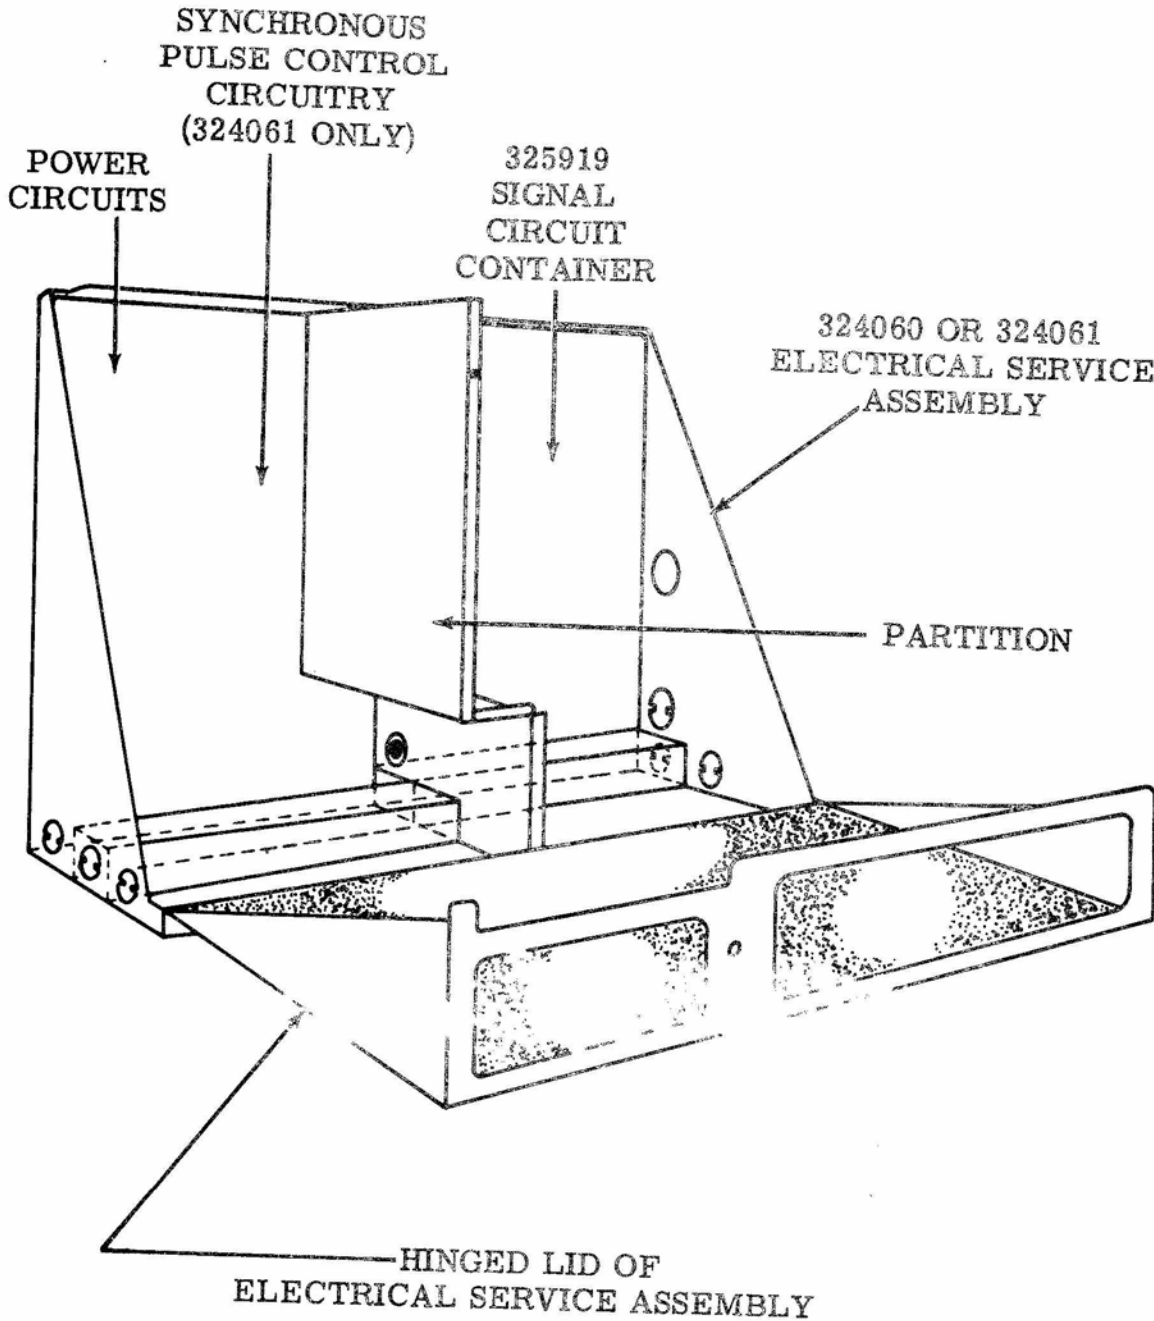

Figure 4 - Inputs for Receive-Only or Send-Receive Sets
- (a) With the cover base plate, mounting plate, and electrical service assembly all fastened together, set the mounting plate on its rear edge and support it in this position. Remove the two screws, lockwashers, and flat washers that fasten the hinged lid of the electrical service assembly, and open the lid so that the components within the assembly are accessible as indicated in Figure 4. Loosen the quarter-turn fastener on the outer cover of the 325919 container assembly and remove the outer cover. Loosen the two quarter-turn fasteners on the inner cover of the 325919 container assembly, and remove the inner cover.
- (a) With the electrical service assembly in the position indicated by Figure 4, refer to 8328WD, sheet 4, and insert the 325915 cable assembly through the right 326731 bushing into the electrical service assembly. Remove and discard the screw, lockwasher, and nut fastened in the right keyhole slot in the outer frame of the 325919 container assembly. Remove the nut and lockwasher from the mounting bushing on the 325915 cable assembly, but retain them on the cable. Insert the nut and lockwasher while still on the cable wire through the left keyhole slot in the outer frame of the 325919 container assembly so that the terminals on the cable extend